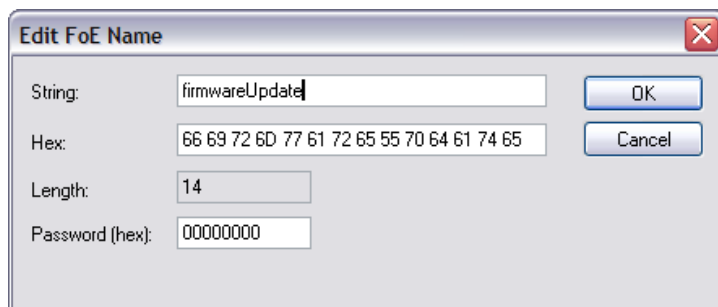

Figure 37: FoE file transfer dialog
4. Now a file transfer dialog (Figure 37) will appear: Set the file name string to “firmwareUpdate” and leave the password (hex) at “00000000”